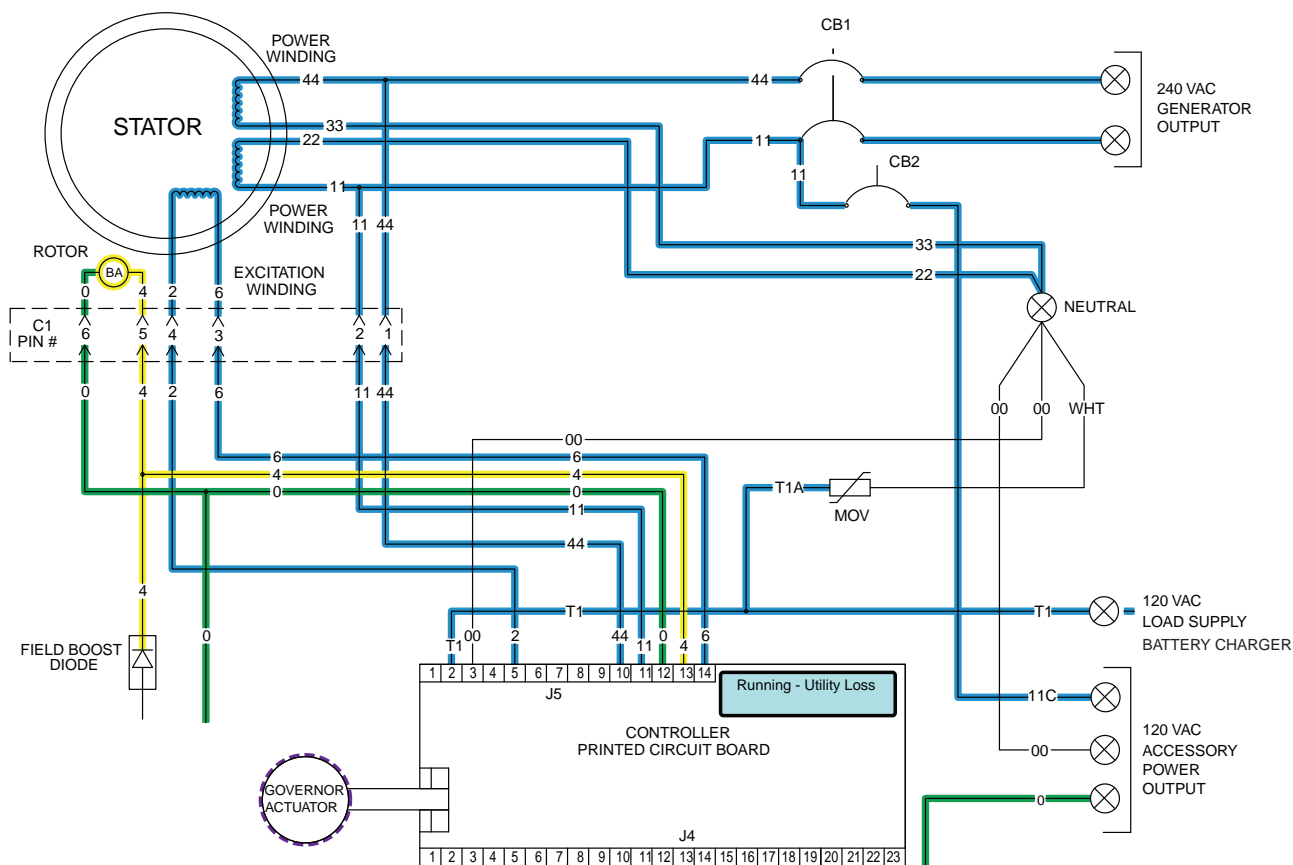

Figure 99.
- The “engine warm-up timer” will run for 5 seconds. When this timer finishes timing the controller’s logic will initiate a transfer to the “Standby” position. As shown in Figure 99, the timer is still running and transfer has not yet occurred.